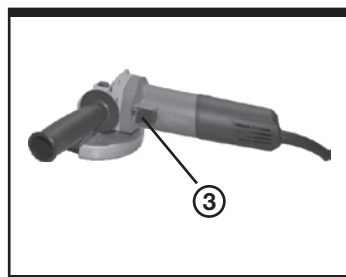

Fig. 4
To switch off the power tool, release the on/off switch (1) or, if it is locked, briefly push down the back of the on/off switch (3) and then release it. (See Fig. 4)